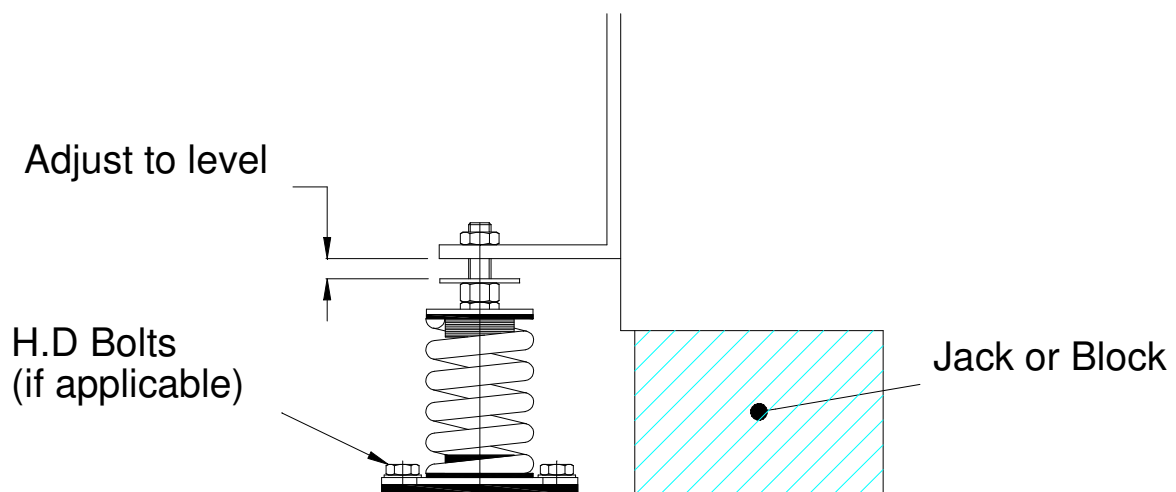

Figure 1.
3. After the isolators are in position the machine base should be levelled and supported just clear of the adjusting screw fixed nut, (See Figure 1), using jacks or blocks ensuring alignment between isolator screw and machine base fixing holes.